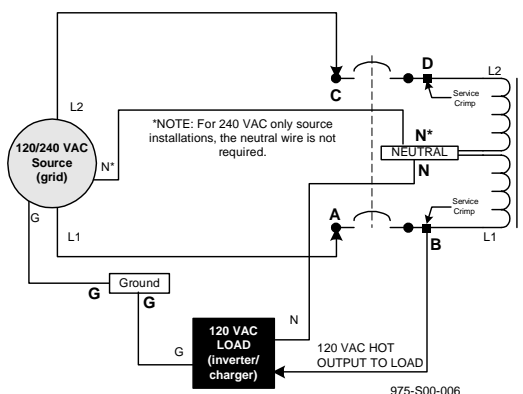

Figure 10
- Connect the L1 AC HOT wire (from the utility grid) to point A on the lower breaker as shown in Figure 10.
- Connect the L2 AC HOT wire (from the utility grid) to point C on the upper breaker as shown in Figure 10.